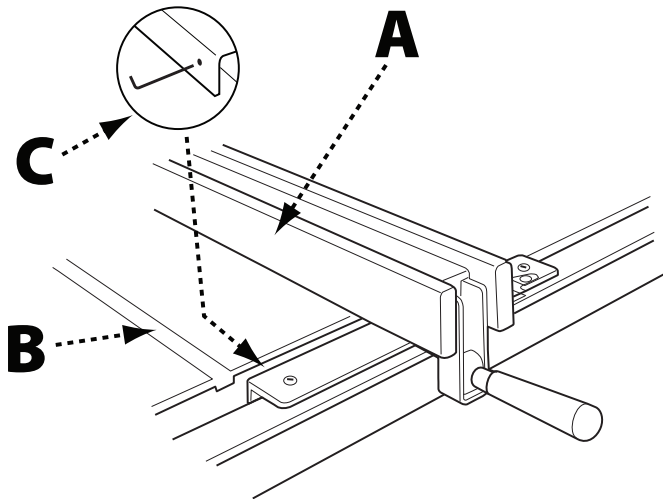

FIGURE 36
2. If the fence face (A) figure 36, is not parallel to the miter slot (B), raise the clamping lever and lift the fence and place it on the saw table.
3. Adjust the one or both of the set screws (C) 1/4 turn or less.